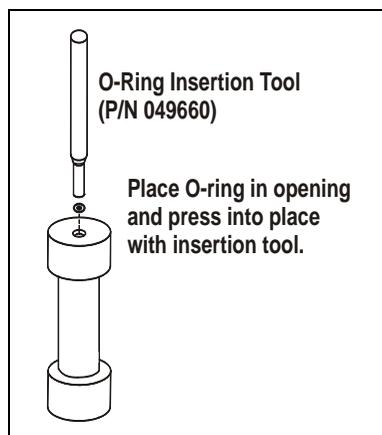

Figure B-11. Installing a Cell End Cap O-Ring
- If an O-ring is missing, place a new one over the opening in the end of the cell end cap. Press the O-ring into place, using the O-ring insertion tool (see Figure B-11).